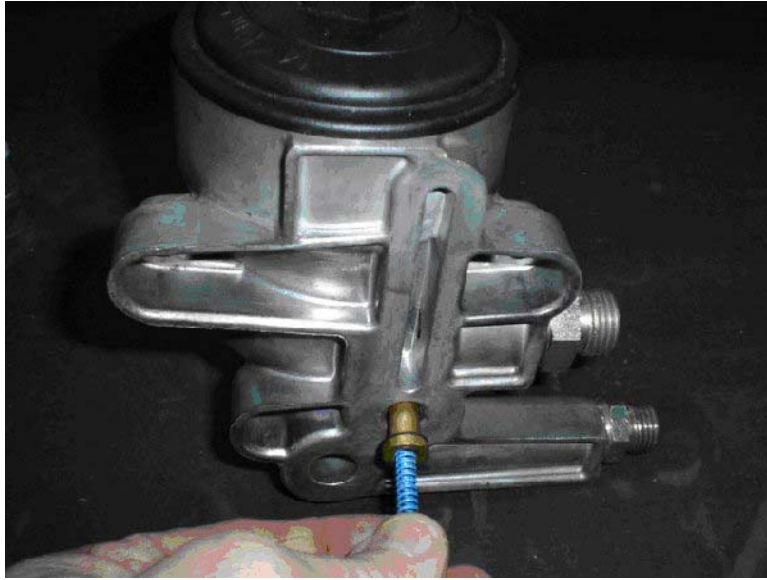

Figure 4 Installing Poppet in Fuel Filter Housing
8. Place new components (poppet, poppet spring, o-ring, and gasket) (kit 1854267C93) in place of discarded components. Install the new poppet and spring in the fuel filter housing (Figure 4) for reassembly to the oil filter housing.